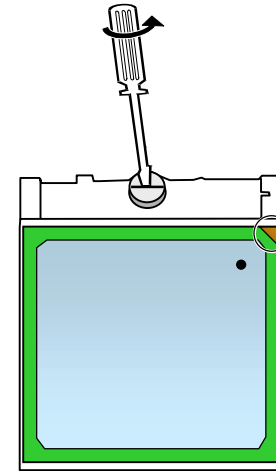

Figure 2-9 Remove the CPU
5. Loosen the screw by a flat screwdriver,upraise the CPU socket to unlock the CPU. (Figure 2-9)